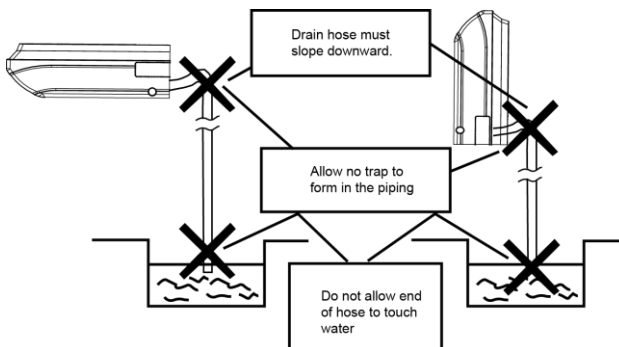

Fig. 4.20
- (4). Connect the drain hose (Fig. 4.20).